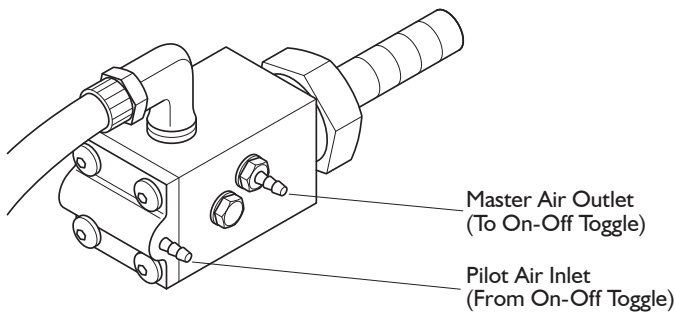

Figure 2
1. Identify the plated 1/16" barb fitting on the side of the master shut-off valve for air (Figure 2). This outlet provides air for the on-off toggle valve. On DCI units there is a transparent tube that goes to the inlet barb on the on-off toggle valve. Connect this tube to the barb on the master shut-off valve.
2. The 1/16" brass barb fitting on the plastic cap of the air master shut-off valve is the pilot air inlet (Figure 2). Connect to this barb the yellow tube that comes from the outlet side of the on-off toggle valve.